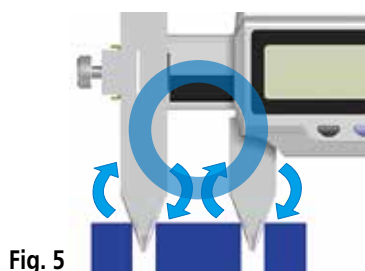

Fig. 5
1. Make sure to apply consistent force on all measurements, and stabilize the measuring faces. (**Fig. 5**)